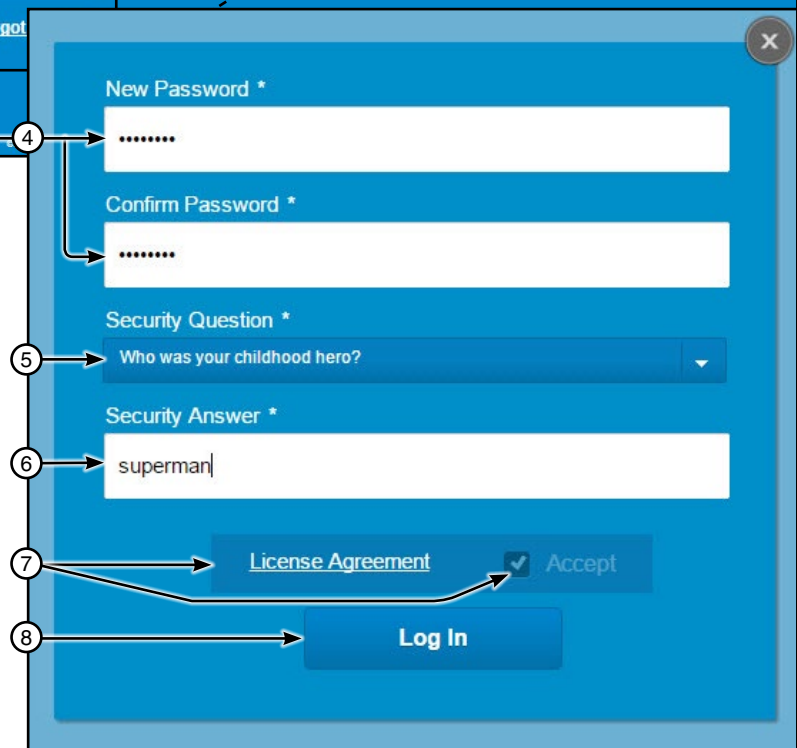

Figure 14-1 1. Click BaseStation3 - (1a) Select the language from the drop down list
1. To open the program click the **BaseStation3** icon on the desktop. See Figure 14-1.